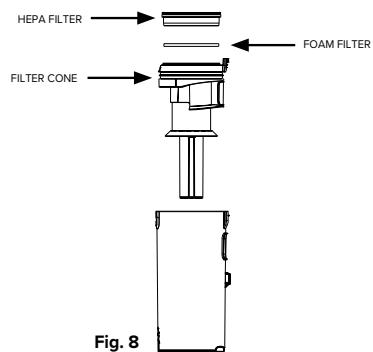

Fig. 8
STEP 2: See 'Fig. 8'. Once the dust container is empty, carefully lift the HEPA filter and the foam filter out of the dust container. Shake the HEPA filter until the majority of the dust has been removed, then rinse under clean, warm water and allow to dry naturally.